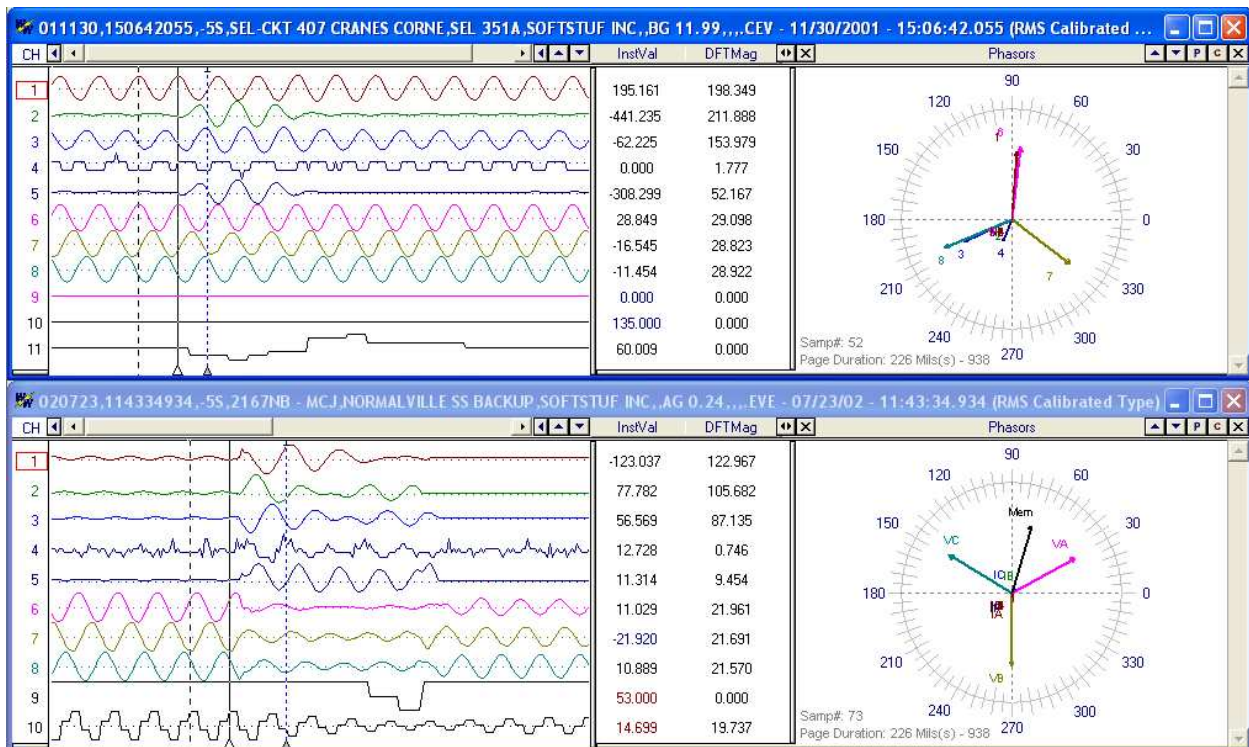

Figure 5.22 Merge Open Files – Manually: Select Channels & Position Data Bars
- Manually: Use the data bars to highlight the location of the common sample time in each window. Then Merge Manually will line up the data bars and adjust the time stamps accordingly. This option is used when the file times are not synchronized. The active window determines the time stamp of the new merged file and the open window with the least number of samples determines the length of the new merged file. Refer to Figure 5.22 and 5.23.